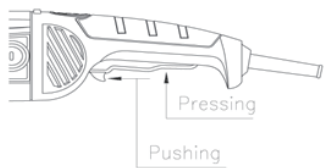

Figure 7
- 2)Start the tool by pushing forward on the switch, then pressing the trigger of switch down slightly.(figure 7)